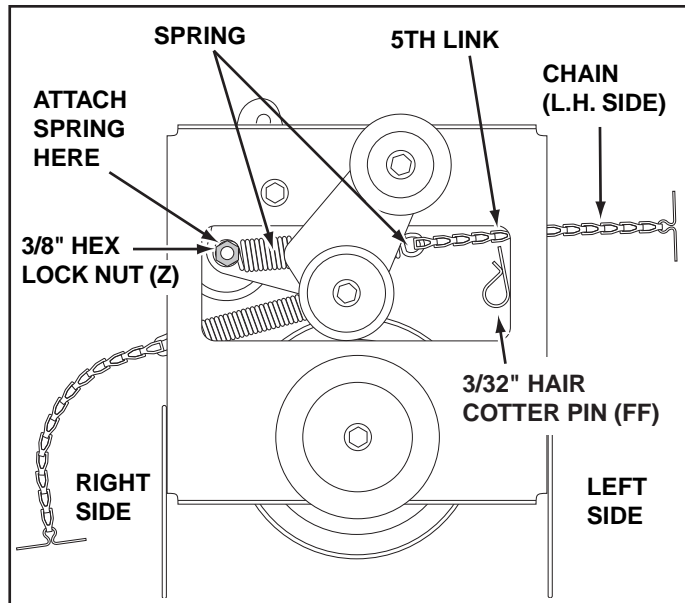

FIGURE 16
STEP 16: (SEE FIGURE 16)
- With the clutch/idler assembly turned upside down, hook the other end of the spring onto the end of the bolt and nut which secure the idler pulley to the upper idler arm. Assemble a 3/8" hex lock nut (Z) onto the bolt and nut, leaving enough gap between the nuts for the spring to pivot freely.
- Attach a 3/32" hairpin cotter (FF) to the chain, placing it in the fifth link from the spring.